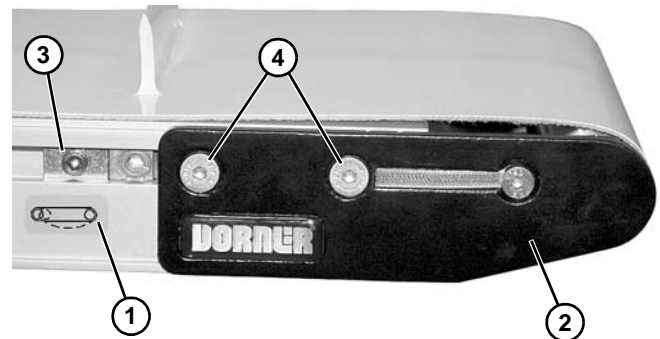

Figure 35
5. On tension end of the conveyor, identified with  a label (**Figure 35, item 1**), push in head plate assembly (**Figure 35, item 2**):
- a. On both sides of conveyor, loosen and move cam tracking assemblies (**Figure 35, item 3**) (if equipped) away from head plates.
- b. Loosen fastening screws (**Figure 35, item 4**) and push head plate assembly inward.